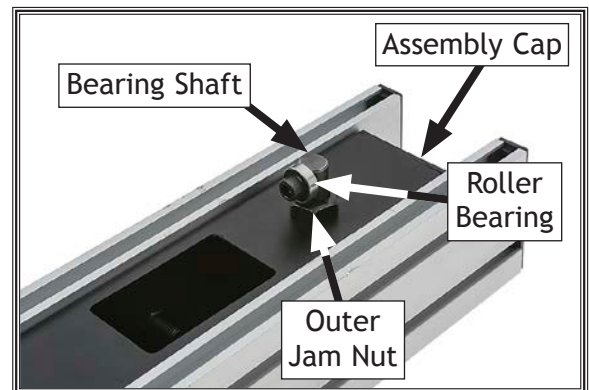

Figure 115. Rear adjustment area for leveling fence.
6. Remove fence assembly cap as shown in **Figure 115**, then loosen inner and outer jam nuts that secure bearing shaft.